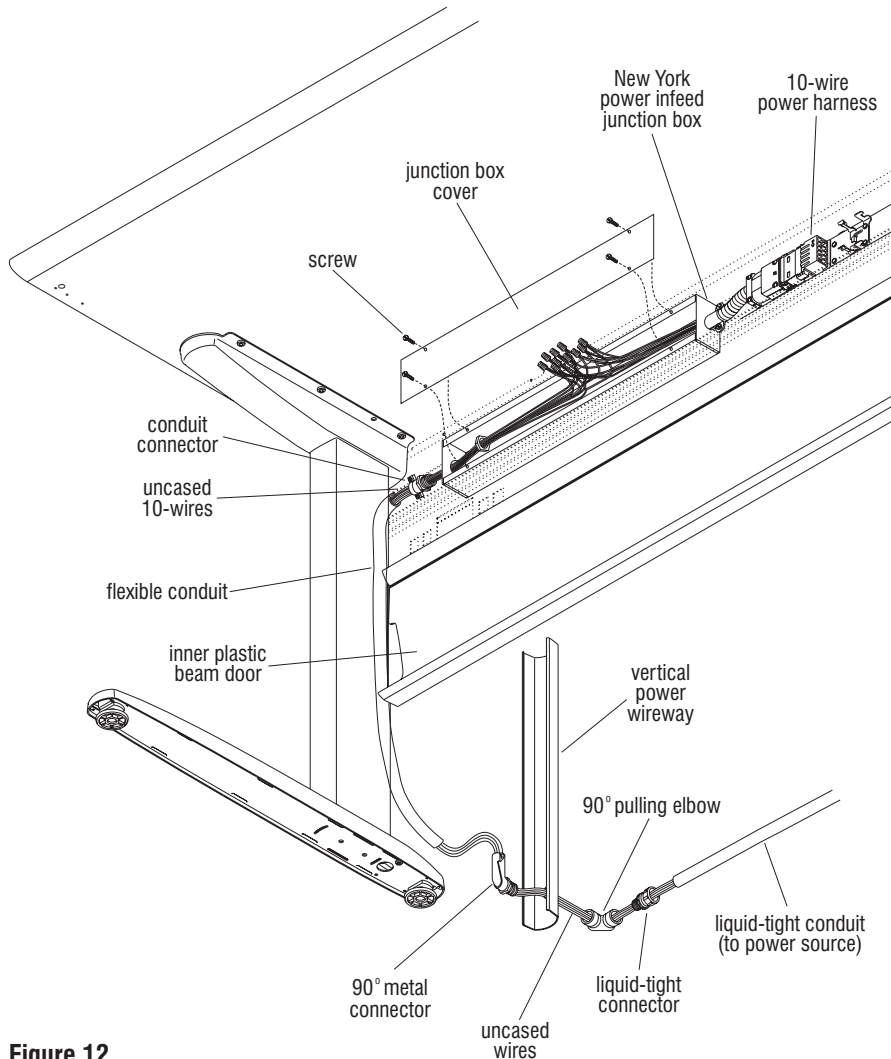

Figure 12
3. At the upper end of the uncased 10-wires, place a conduit connector onto the wires and feed the wires through the knock-out in the end of the New York power infeed junction box as illustrated. Secure the conduit connector to the flexible conduit and to the power infeed junction box. Make appropriate connections with wire nuts inside the junction box and replace the junction box cover (Figure 12).
4. Feed the flexible conduit down the D-Shaped hole in the data trough. Route the exposed 10-wires through the 90° metal connector, vertical wireway, 90° pulling elbow, and liquid-tight connector. Fasten components together. Cut exposed 10-wires and liquid-tight conduit to desired length. Feed the exposed 10-wires through the liquid-tight conduit and attach the conduit to the connector (Figure 12).